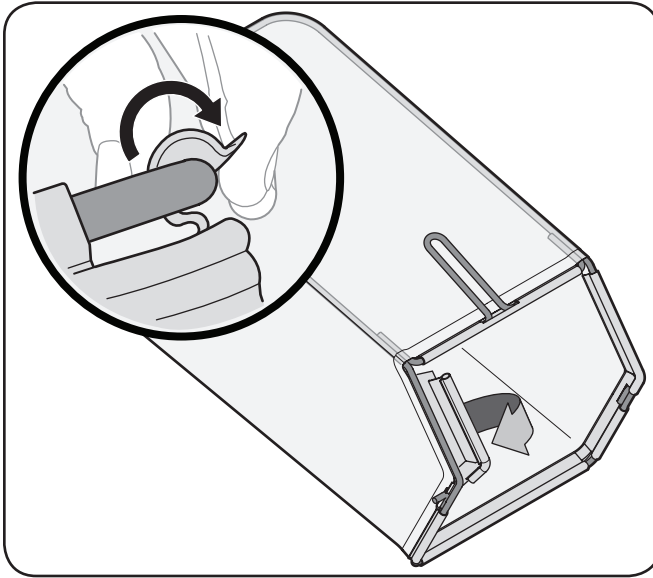

Figure 3-7
- b. Slip plastic channel of grass bag over hooks on the frame. See Fig. 3-7.